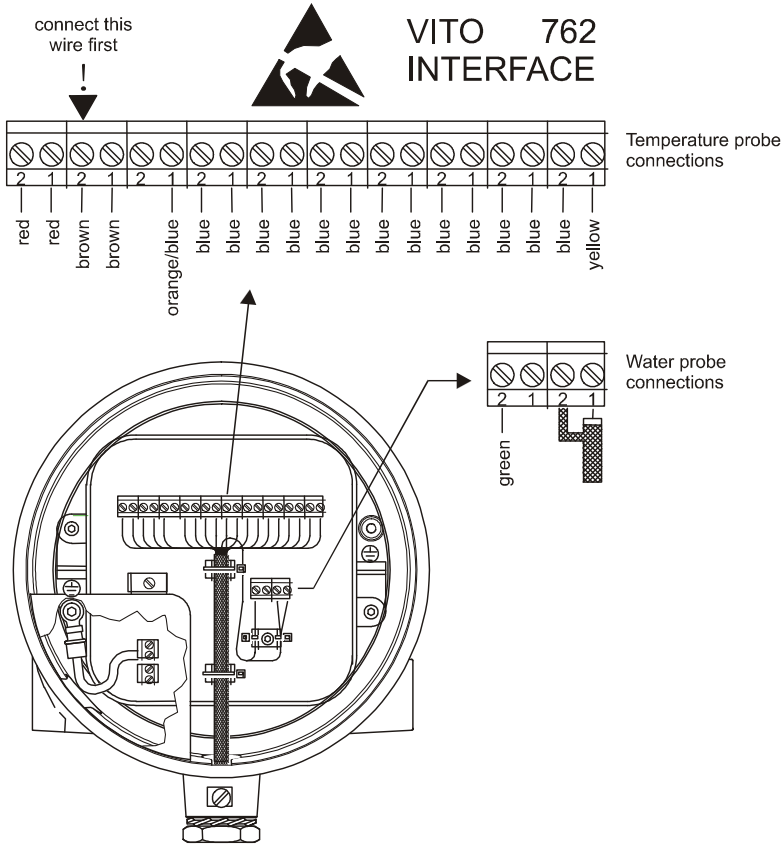
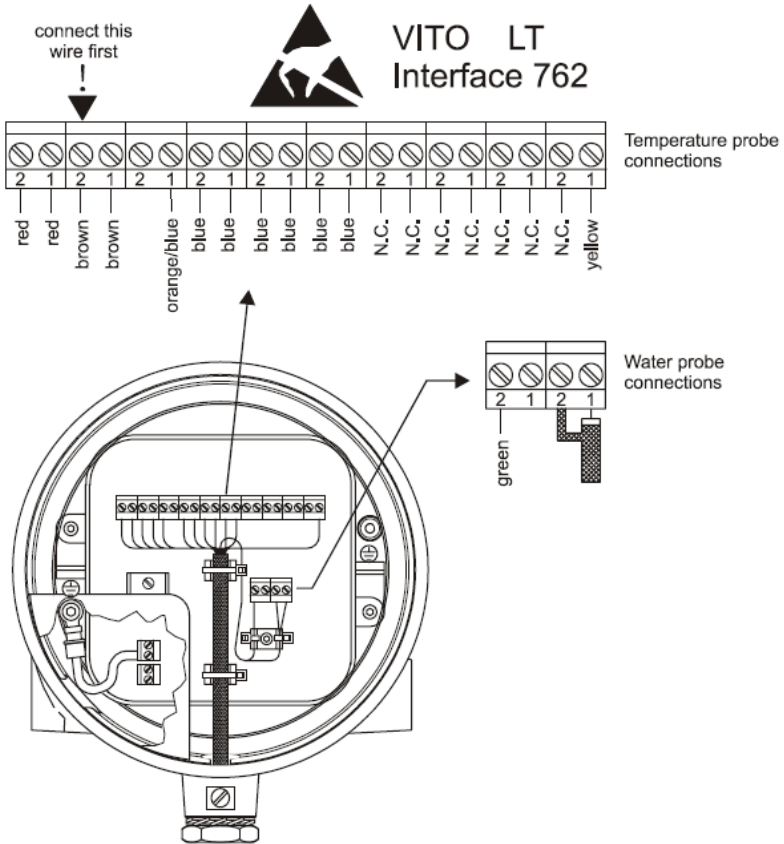

Figure 12 Sensor connections (764/765/766 probe) to 762 VITO-MTT
Figure 13 Sensor connections (767/768 probe) to 762 VITO-LT
- Connect the Coax cable and ground wire from the water probe (refer to figure 12: Water probe connections);
- VITO probe wiring as indicated in figure 12 or figure 13;
- 365 MPT probe as indicated in figure 12 (water probe connection at rear module) and figure 16 (multiple spot connection at front module).
- Double check the wiring and use tie-wrap as stress relief (refer to figures 12, 13, 14 and 16).